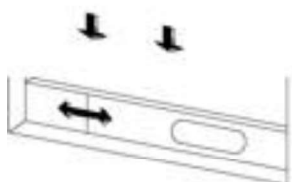

Figure 2
- Open the window to the half and mount the window sealing plate to the window frame (as shown in Figure 2 and 3); the assembly can be placed in horizontal and vertical direction.